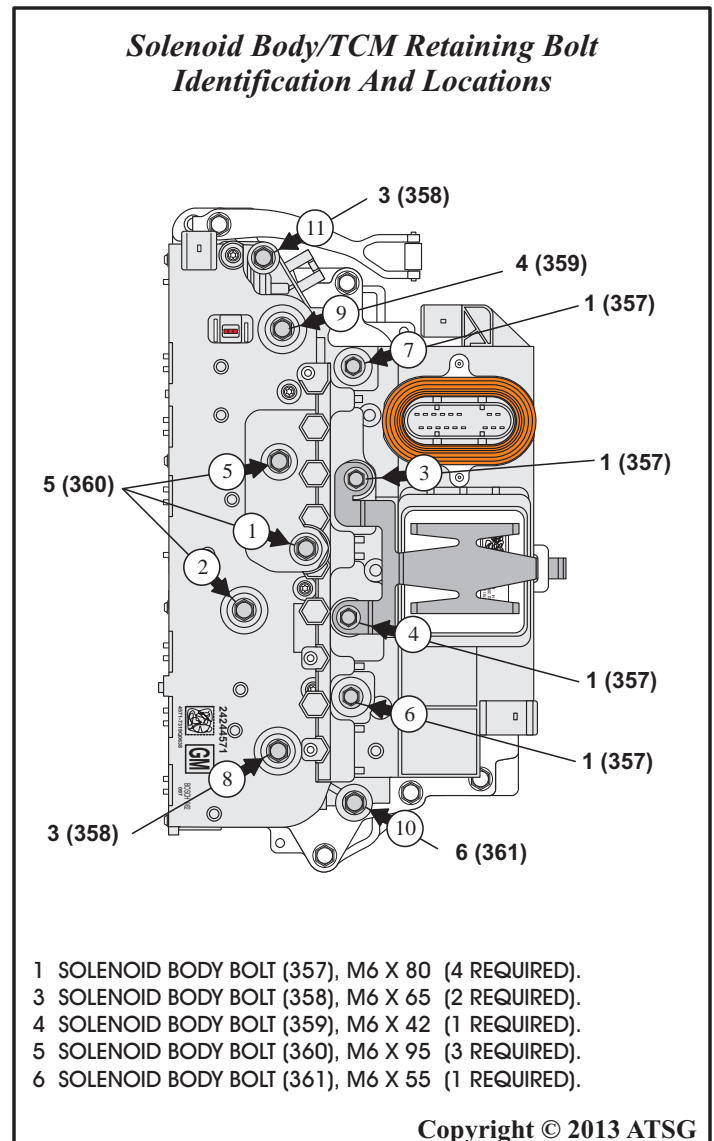

Figure 220
**Note: All solenoid body & TCM assembly bolt lengths and locations are shown in Figure 220.**
63. Torque all of the solenoid body & TCM bolts to 12 N•m (106 in. lb.), in the sequence shown in Figure 220.